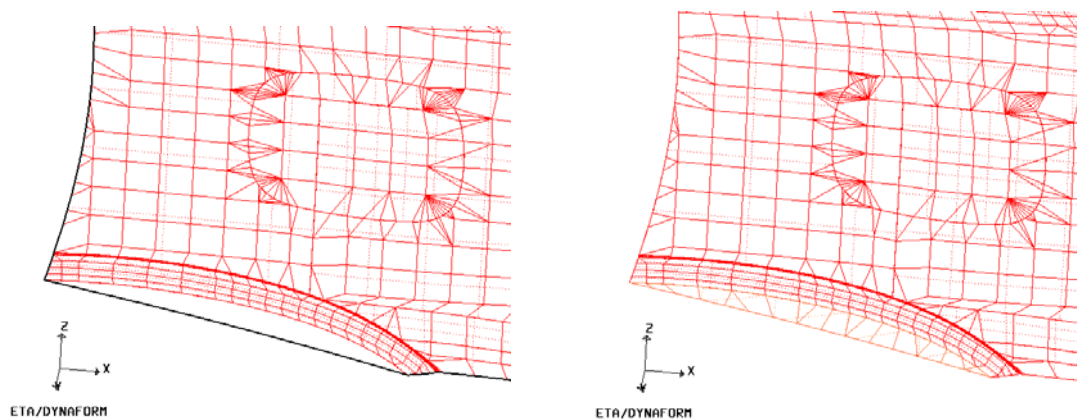

Figure 6.1.41 Morphing Result
3. Click on the FILL BOUNDARY button to fill elements between the original boundary and the smoothed boundary. The result from a typical morphing operation is illustrated in Figure 6.1.41.